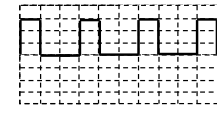

Figure 10
16. For the signal in Fig. 10, compute: (a) the DC component of the periodic signal and (b) the DC component (mean) indicated by the oscilloscope in **Mean** measurement menu. The oscilloscope has: $C_y=2\text{V/div}$, the zero level is in the middle of the screen, coupling: **DC**. *Indication:* the scope calculates the mean strictly based on the displayed image, without knowing the signal's period.